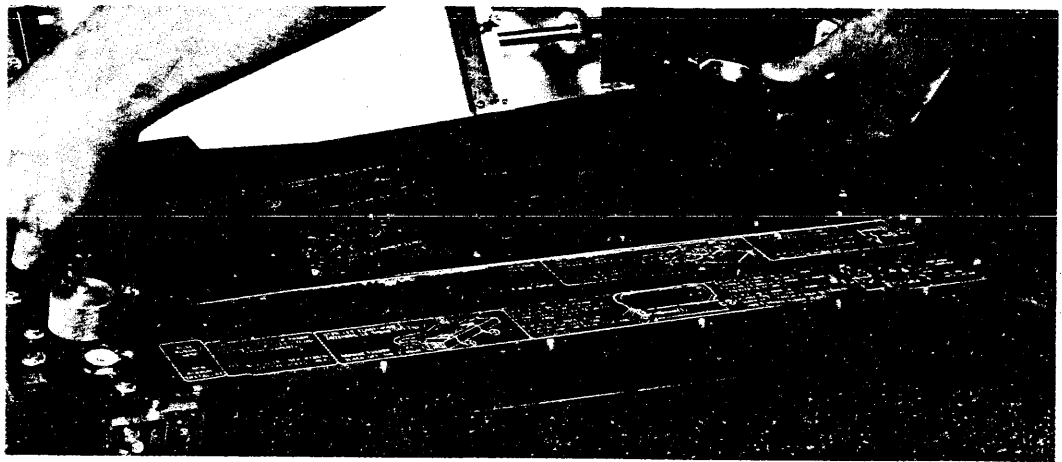

Figure 3-8. Removing the Ribbon Cassette
4. Grasp the ribbon cassette, move it upwards keeping it in a horizontal position, and remove it from the printer (Figure 3-8). Use the ribbon cassette supports for temporary storage of cassettes.